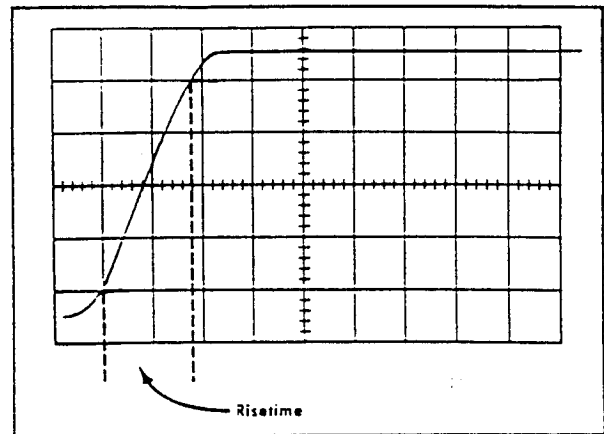

Fig. 6-60. Typical CRT display when checking Calibrator risetime. Indicated risetime is 0.36 microsecond.
j. Check—Risetime between 10% and 90% points on the waveform less than 1 microsecond as shown by less than 5 divisions horizontally (see Fig. 6-60).